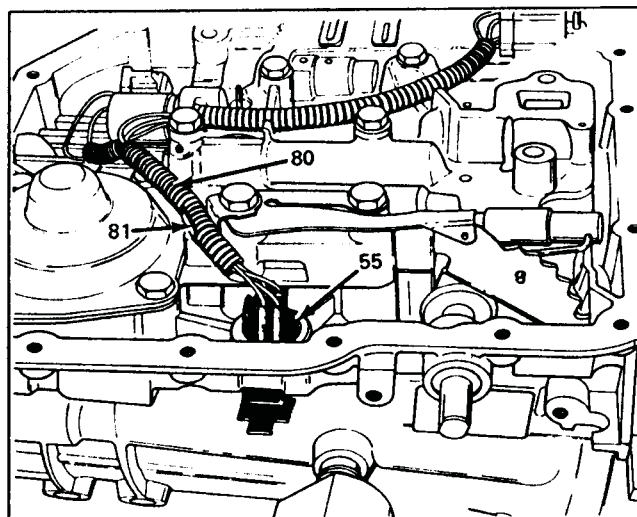

Figure 131
19. Connect the 4 terminal main case wiring harness assembly to the case electrical connector by snapping into place, as shown in Figure 131.
20. Wiring harness must be routed through and snapped into the wiring harness clip as shown in Figure 131.